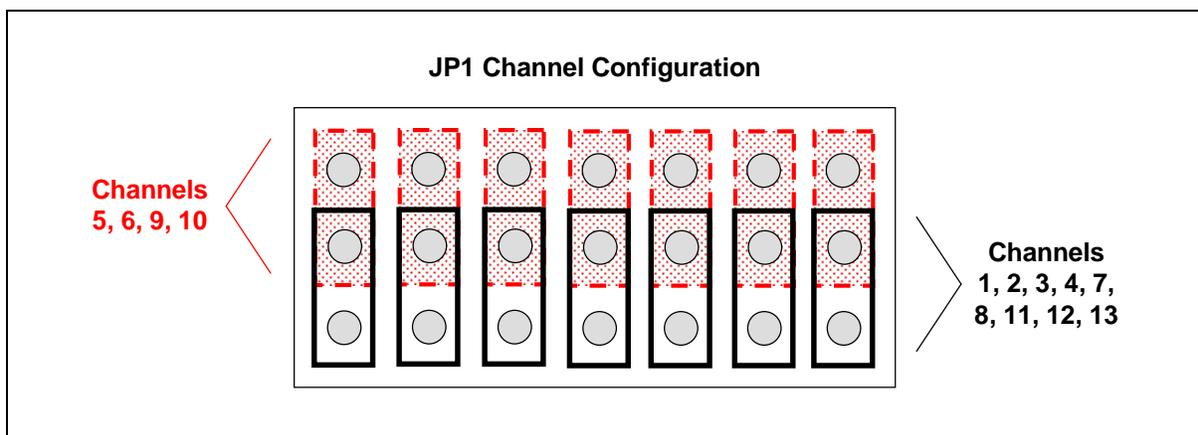

Figure 1. ASC Card Jumper Block
6. On both the operational and spare ASC, set the backup channel configuration using the seven jumpers on JP1. Using all seven jumpers, move the jumpers to the side of the block that lists the number of output channels for your site configuration, the center row of pins being common. Example: Using figure 1 as a reference, if your site configuration had 5, 6, 9, or 10 transmitters, each jumper would connect from the center row of pins to the top row of pins. If your site configuration had 1, 2, 3, 4, 7, 8, 11, 12, or 13 transmitters, each jumper would connect from the center row of pins to the bottom row of pins.